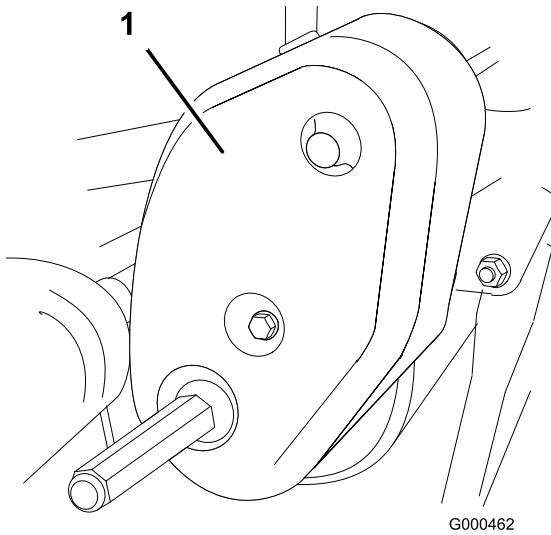

Figure 41
1. Remove belt cover mounting fasteners and belt cover to expose belt (Figure 41).